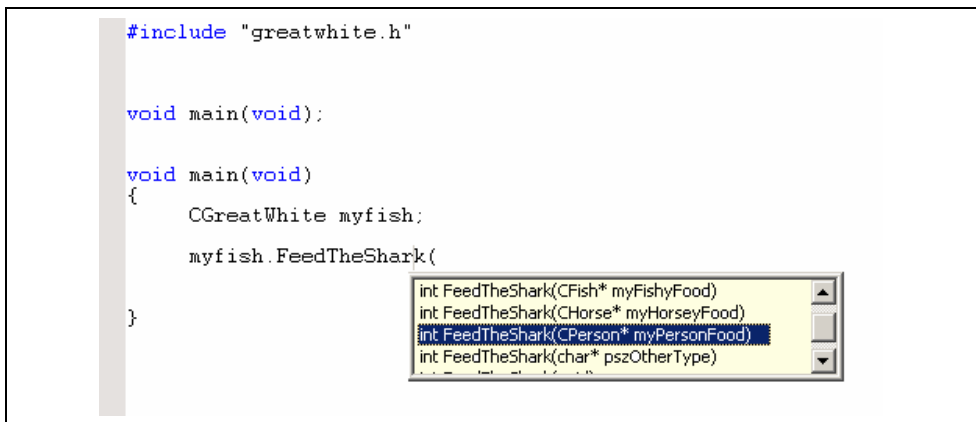

Figure 14.3: Smart -edit function selection
- If you are trying to use a C++ function then the dialog in Figure 14.3 is displayed when the first open bracket is entered. This dialog allows you to see what functions are available for the current object. Selecting the function automatically enters the remaining parameters for you.